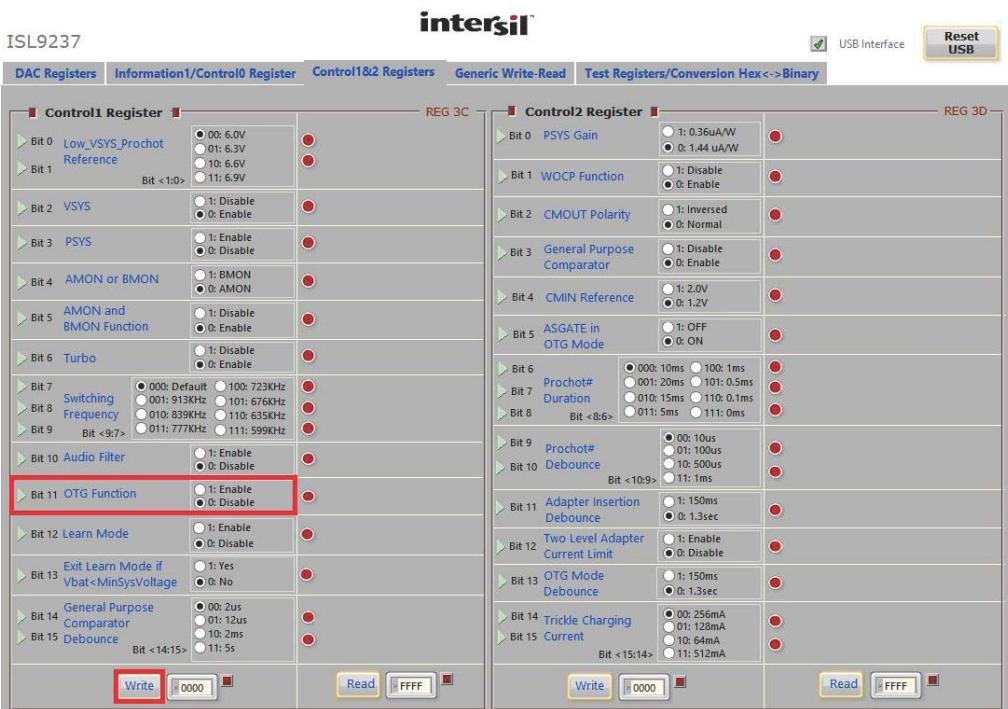

FIGURE 5. OTG FUNCTION ENABLE
5. Select the "Control1&2 registers" tab, enable the OTG function at Control1 register, then click the "Write" button, as shown in Figure 5 on page 5.
6. Switch SW2 on the evaluation board to the HI position; the load voltage is regulated as an OTGVoltage value, set in Figure 5, and the LED 3 light is on, which means the OTG function is enabled.